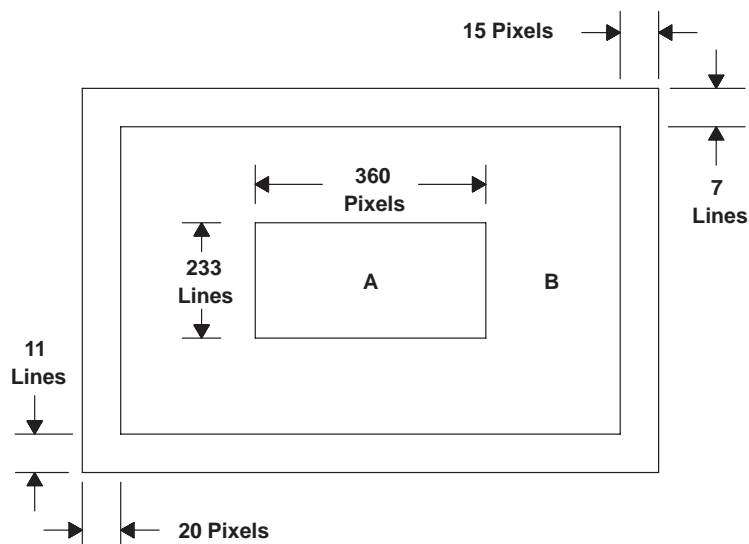

Figure 5. Sensor Area Map
- Location of the nonuniformity (see Figure 5)